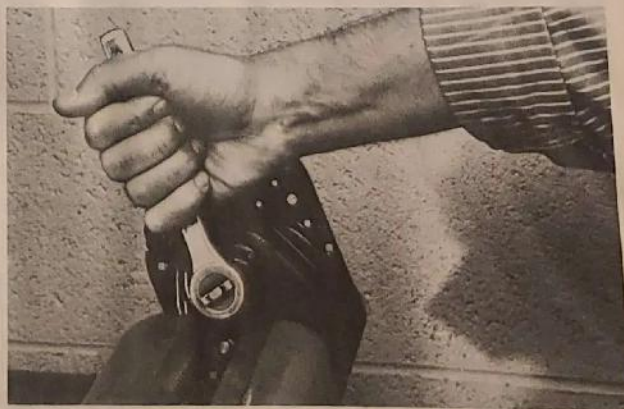

Fig. 9. Removing Crank Arm
1. Clamp crank arm in vise. Remove nut (fig. 9).